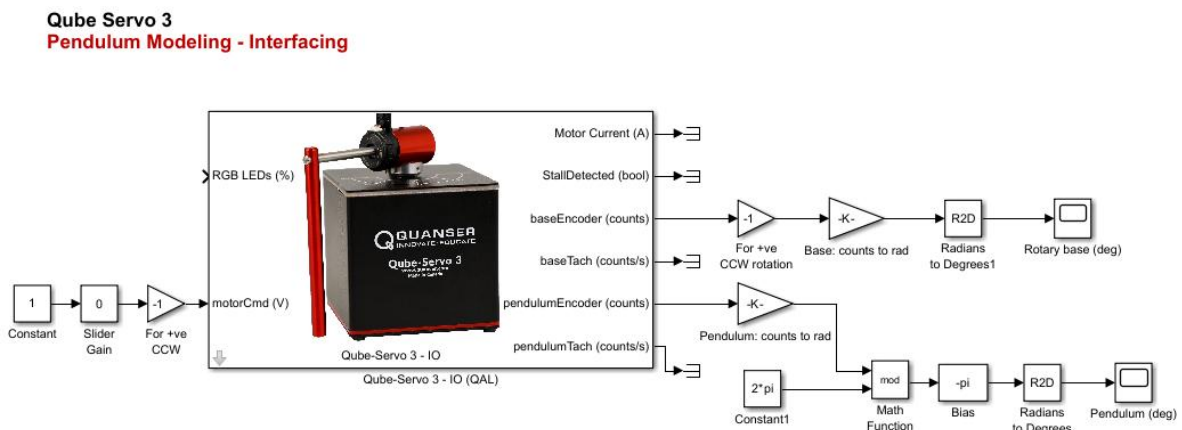

Figure 2: Simulink model that includes the modulus and bias blocks.
11. Add a **Modulus** and **Bias** block to the Simulink model so that the pendulum angle  $\alpha$  is 0 rad in the upright position and is bounded by  $\pm\pi$  rad. The model should look similar to Figure 2 below: